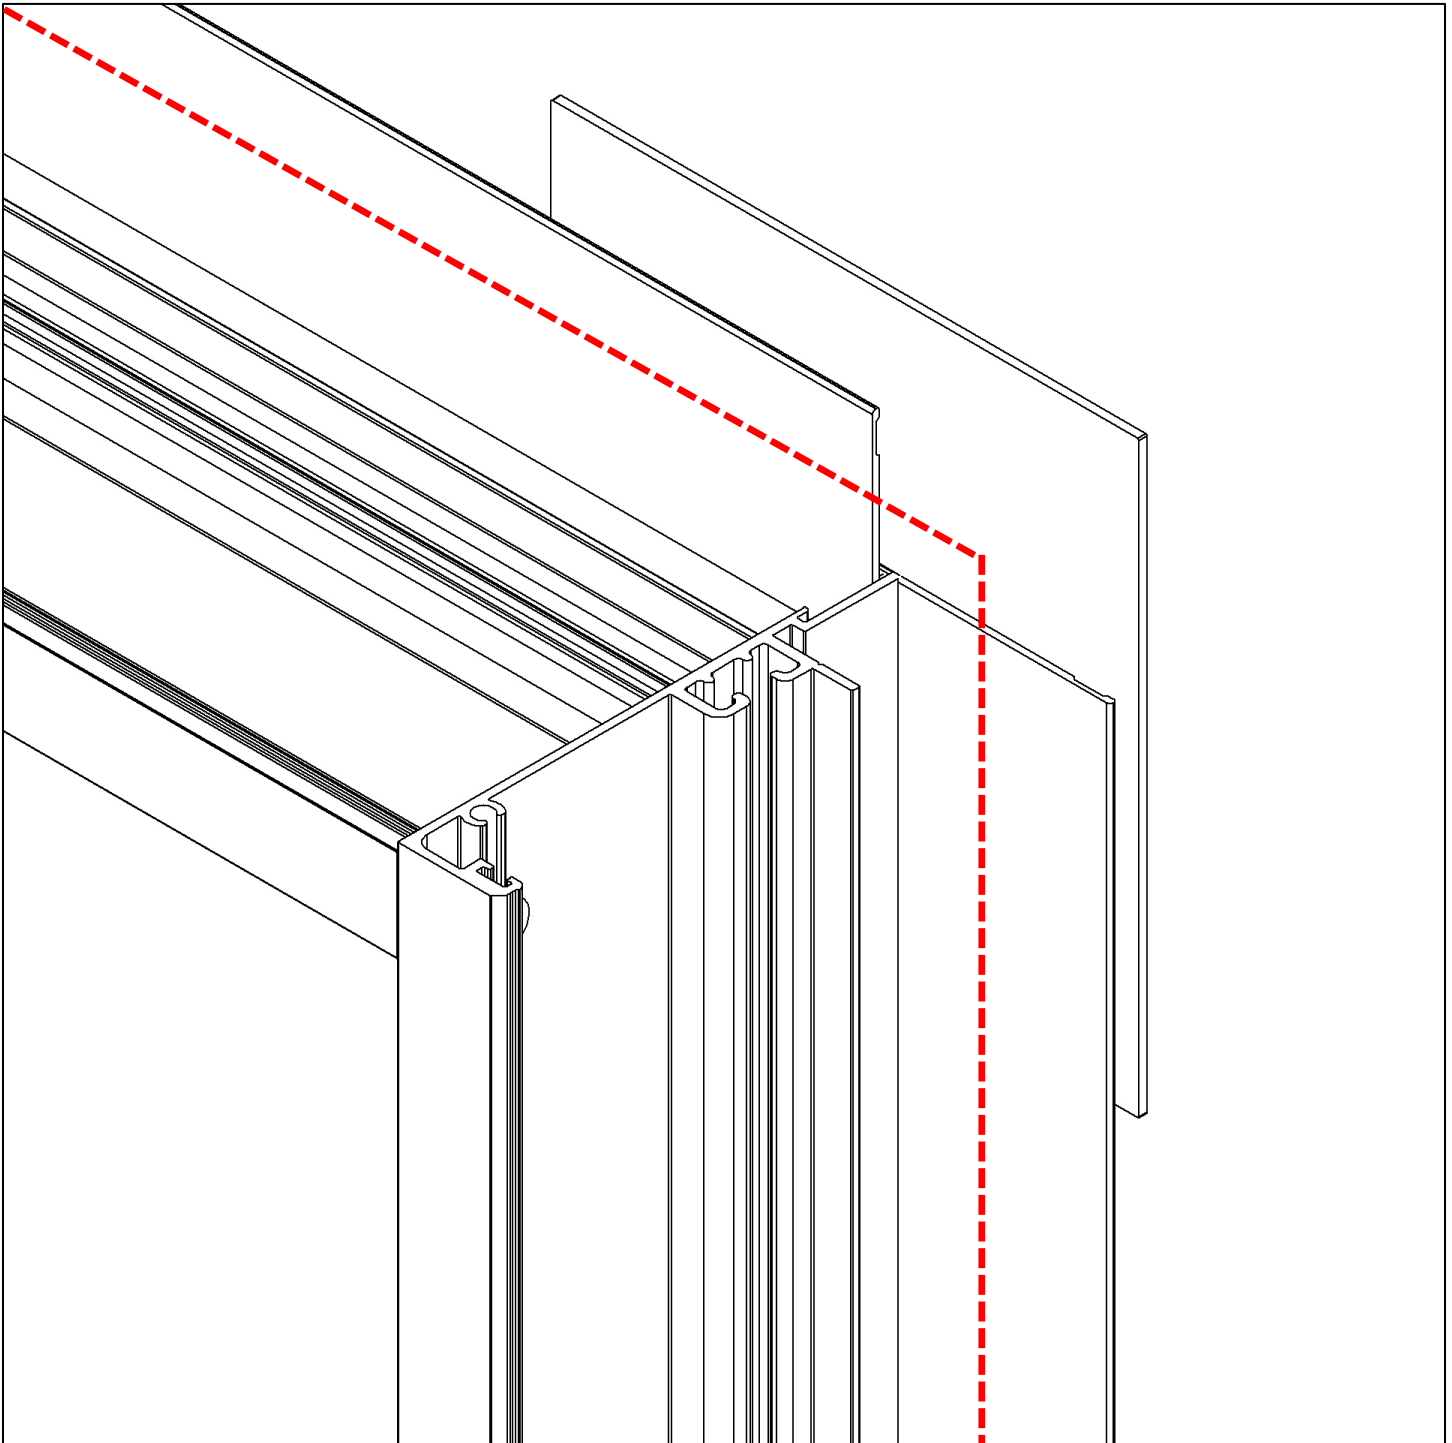

Fig. 4
5. Apply a 3/8" continuous bead of sealant across the back of the nail fin. Connect the bead of sealant across any joinery on the window frame at all corners. The nail-on flange should make full contact with the opening (see Fig. 4).